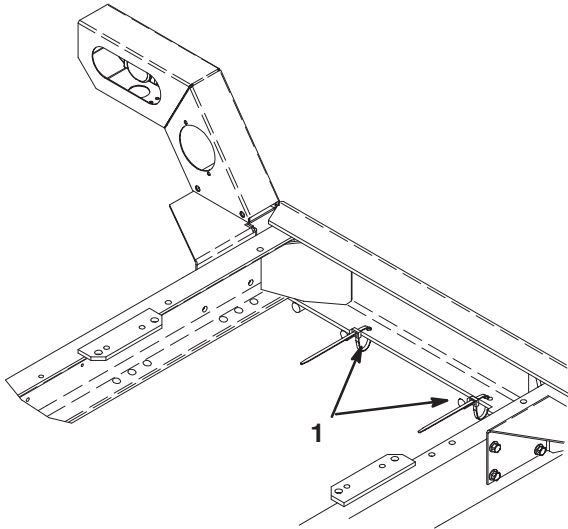

Figure 3
4. Insert cable ties through the holes in the rear bumper and secure the taillight wire harness to the bumper (Fig. 3).